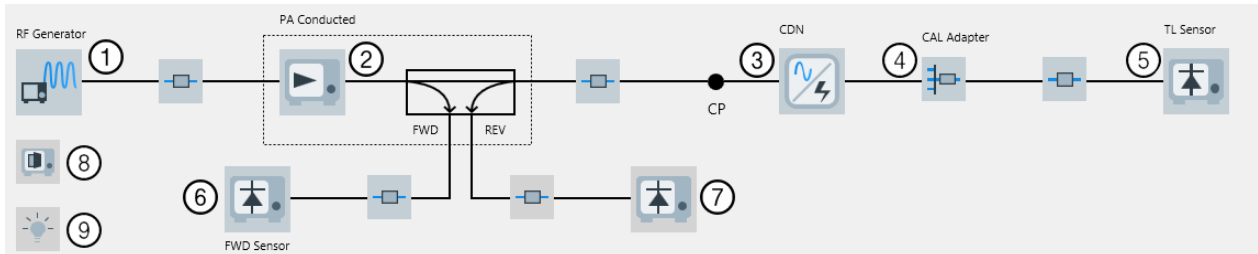

Figure 4-149: EMS hardware setup diagram (conducted) for CDN / EM Clamp in Calibration View
- The "Calibration View" (see Figure 4-149)